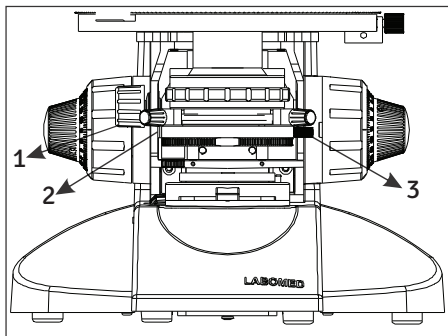

Fig. 8
This high quality primary polarizer (1) is 360 degree rotatable with fiducial marking (2) for quick identification of Polarized/ Cross Polarized positions fig.8
It is ideally located below condenser and with a lockable mechanism (3) fig. 8(b) to stop polarizer filter at desired position for comfortable observation experience.